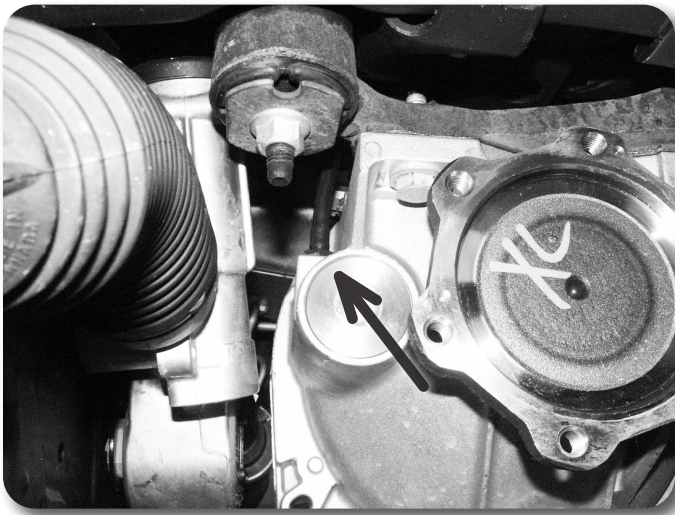

Figure 17
30. Disconnect the differential breather hose Figure 17.